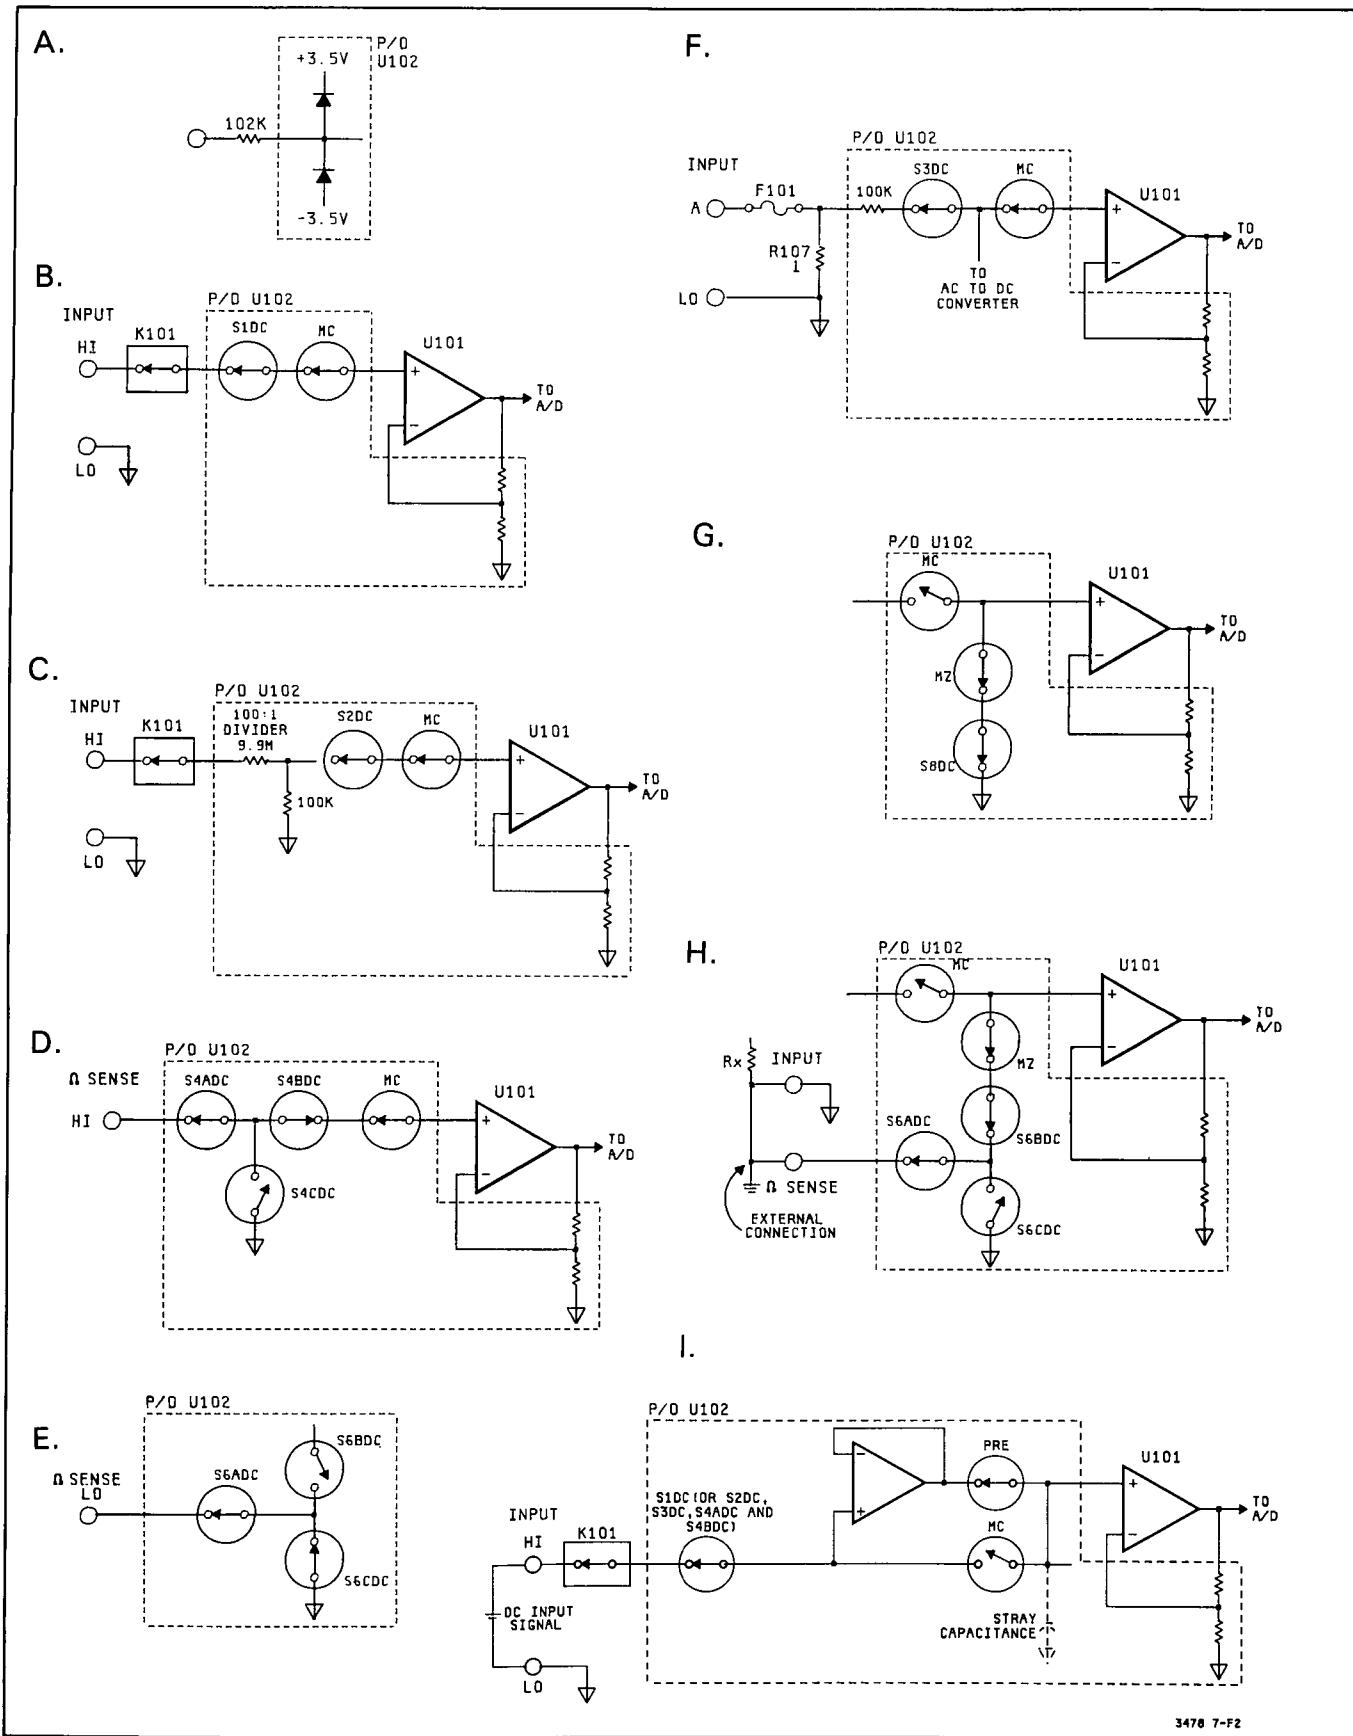

Figure 7-F-2. Simplified Schematic Of The Input Switching Circuitry
b. **Low Voltage Protection.** This circuit consists of diodes connected to the individual input nodes (part of the HI INPUT, LO INPUT, A INPUT Paths, etc.). The diodes on each node are connected (internally in U102) to + 3.5V and -3.5V power supplies. If the voltage on a node exceeds either + 4.2V or -4.2V, a diode conducts and keeps the level on the node to the $\pm 4.2V$ levels. The difference between the high voltage at the input terminals and the voltage at the input nodes is dropped across the resistors which are in series with the diodes and input terminals (the low pass filter). Figure 7-F-2A shows a typical protection circuit.
7-F-13. **Input Switching.** The Input Switching Circuitry consists mostly of Relay and MOSFET switches, with most FET switches located in U102. The purposes of the switches are to provide five signal paths to the Input Amplifier and to connect the amplifier for a zero measurement (done in the Autozero Function; see paragraph 7-F-14). The switches are controlled by circuits in U102 which receive their control information from the A/D Controller. The following explains the various input paths. Refer to Figure 7-F-2 and Schematic 1 for the explanation.
a. **Low Voltage Range Input Path (Figure 7-F-2B).** The path consists of K101, R103, R104, R110, and S1DC (S1DC is in U102). The purpose of the path is to connect the HI INPUT Terminal (high input voltage) to the DC/Ohms Input Amplifier. The path is used only in the 30mV through 3V dc volts Ranges and all Ohms Ranges.
b. **High Voltage Range Input Path (Figure 7-F-2C).** The path consists of R110, K102, S2DC (in U102), and a 100:1 divider (9.9M ohm and 100K ohm resistors, RD99 and RD98, in U102). The purpose of the path is to attenuate input voltages by a factor of 100 and to connect the attenuated voltage to the DC/Ohms Input Amplifier. The path is used only in the 30V and 300V dc volts Ranges.
c. **Ohms High Sense Path (Figure 7-F-2D).** This path consists of R105, R106, and S4ADC and S4BDC (S4ADC and S4BDC are in U102). The path connects the HI OHMS SENSE Terminal (high ohms input) to the DC/Ohms Input Amplifier, only when the 3478A is in the 4-Wire Ohms Function. Switch S4CDC (which is also part of the path) is used to connect the junction of S4ADC and S4BDC to ground. Switch S4CDC is closed in all functions except the 4-Wire Ohms Function and shunts any possible voltage on the S4ADC and S4BDC junction to ground.
d. Ohms Low Sense Path (Figure 7-F-2E). This path consists of R101, R102, and S6ADC and S6CDC (S6ADC and S6CDC are in U102). The path is used to connect the LO OHMS SENSE Input Terminal (low ohms input) to ground (LO INPUT Terminal), when the 3478A is in the 4-Wire Ohms Function. In the 2-Wire Ohms Function, the low ohms input is the LO INPUT Terminal (which is connected to ground).
e. Current Input Path (Figure 7-F-2F). This path includes R107 and S3DC (in U102). The voltage drop across R107 (which is generated by the current being measured) is connected through S3DC to the DC/Ohms Input Amplifier. This path is used only in the DC Current Function.
a. Autozero (in the DC Volts, DC Current, and 2-Wire Ohms Functions). In the DC Volts, DC Current, and 2-Wire Ohms Functions, the zero measurement is made with switch MC (measure customer) open, and switch MZ (measure zero) and S8DC closed (see Figure 7-F-2G). Switch S8DC and MZ connects the DC/Ohms Input Amplifier to ground through a 102K ohm resistor. After the zero measurement is made, switch S8DC and MZ opens, and switch MC closes for the input measurement. (Note: MOSFET switches MC, MZ, and S8DC are in U102.)